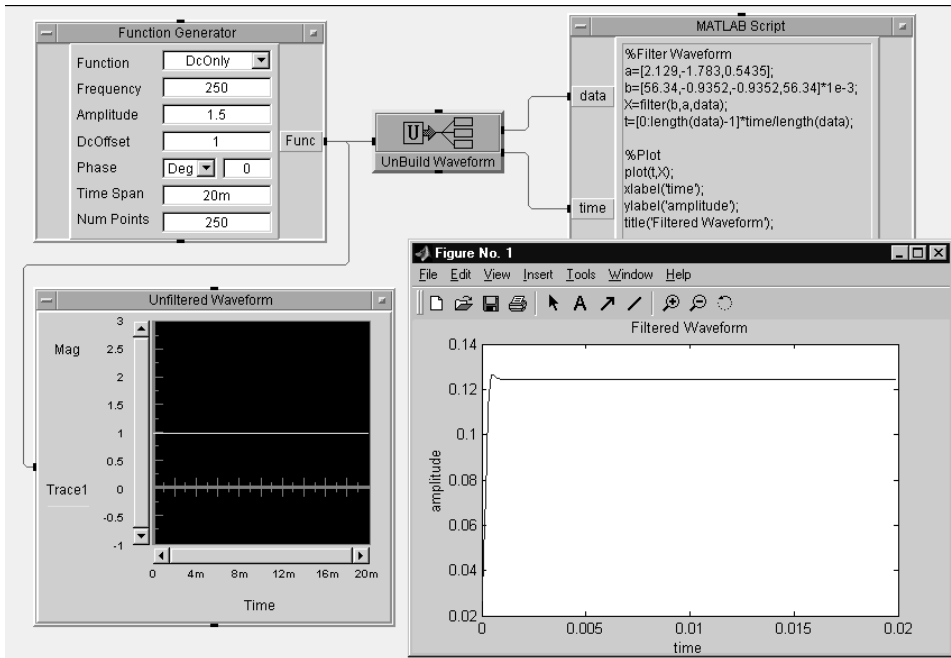

Figure 17.13. A filtered Dc offset
16. Compare the filtered and unfiltered waveforms; see Figure 17.13.